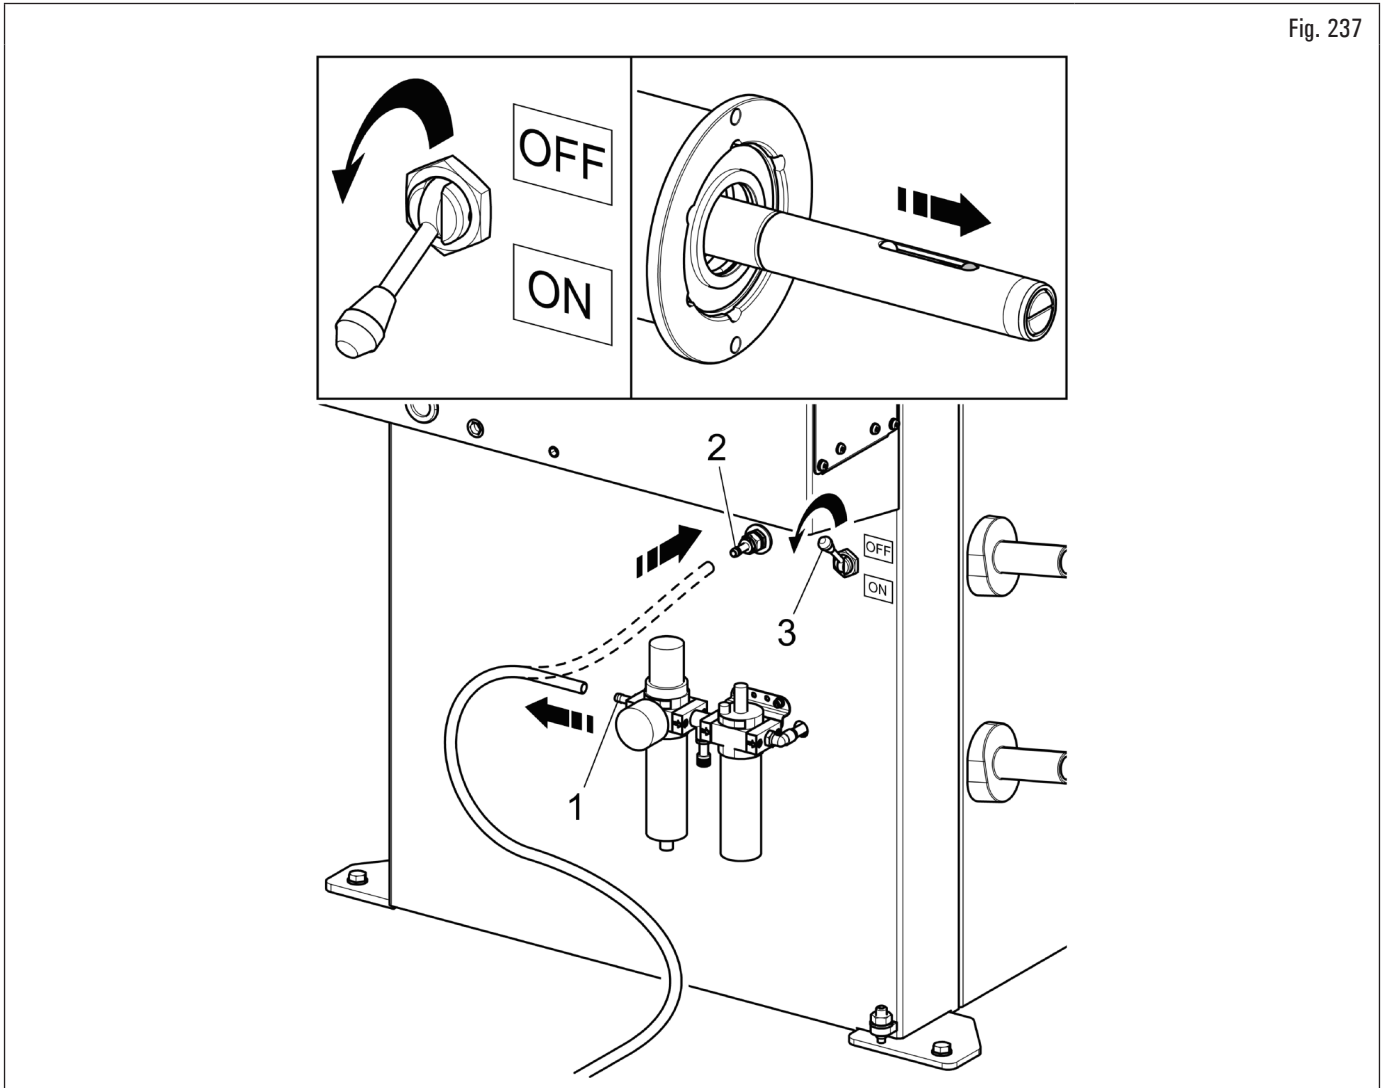

Fig. 237
In the event of a power failure, the pneumatic chuck could remain closed, keeping the wheel locked. To activate the emergency release, disconnect the pneumatic power supply from the reducer-lubricator filter assembly (Fig. 237 ref. 1) and power the emergency release system by connecting the power supply itself to the fitting (Fig. 237 ref. 2). Lower the lever (Fig. 237 ref. 3) to "ON" position to open the chuck and release the wheel. At the end, reposition the lever (Fig. 237 ref. 3) to "OFF" and restore the pneumatic connection on the lubricator reducer filter assembly (Fig. 237 ref. 1).